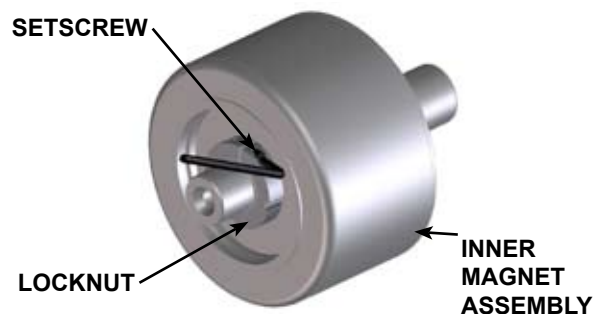

FIGURE 8
12. Insert a brass bar into the rotor (36) through a port between two rotor teeth and remove the split locknut (66), see **Figure 8**. Slide the inner magnet assembly off of the shaft. Make sure the outer thrust washer (60) does not come off with the inner magnet assembly. If the thrust washer hits the shaft key (62) it may crack or break. Do not forget this is a very strong magnet. Inspect the magnet assembly for damage or wear; replace if needed. If further disassembly is required, proceed to the next step.